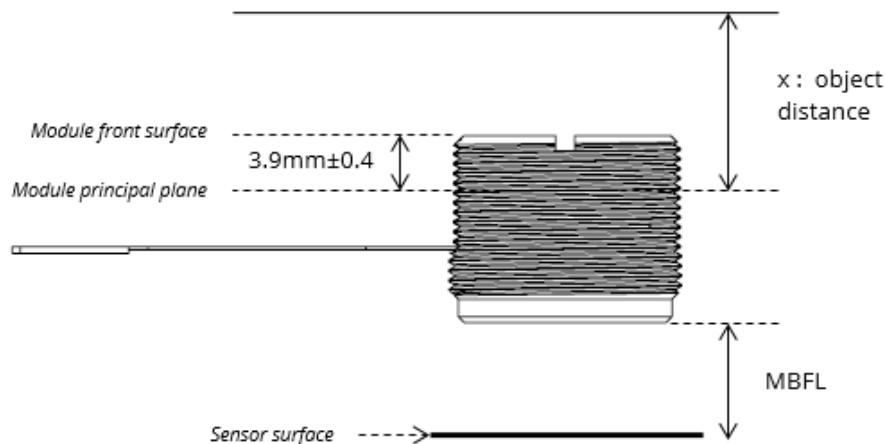

Figure 3: Definition of x and MBFL
- (1) For more information on the behavior of the A-25H0 lens with voltage, please refer to the A-25H TEDS.
- (2) For a sensor size of 7.4 mm diagonal (1/2.4").
- (3) For shorter focusing distances, see "Module Setting Recommendations".
- (4) Refer to figure 3 on page 4